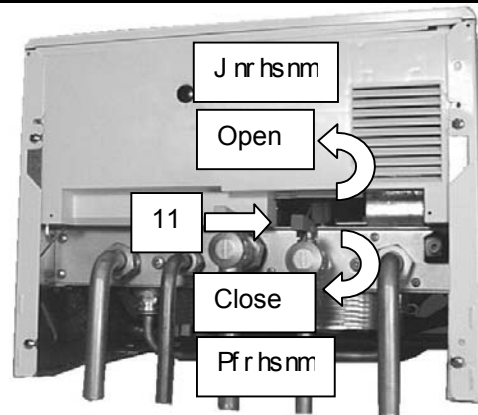
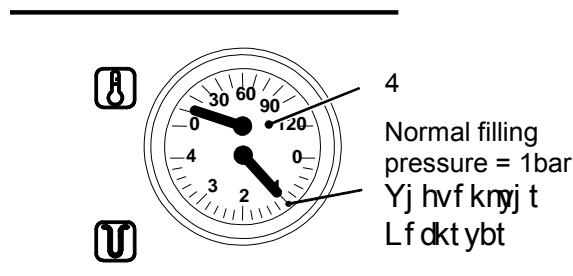

Fig. 2.1
Fig. 2.2
Ensure that the c.h. circuit is regularly filled with water (even if the boiler is only used for d.h.w. supply) checking that the pressure indicated on the temperature and pressure gauge 4 is not lower than that shown in Fig. 2.2.
If the pressure reading on the pressure gauge is below that shown in Fig. 2.2, then the system will require topping up. A filling loop is normally provided by the installer for this purpose.
- 2 Open the c.h. circuit filling valve 11 (Fig. 2.1) until the pressure reaches the normal filling pressure as shown in Fig. 2.2.
- 2 Откройте кран заполнения системы отопления 11 (рис.2.1) и закройте, когда давление достигнет значения, указанного на рис.2.2.